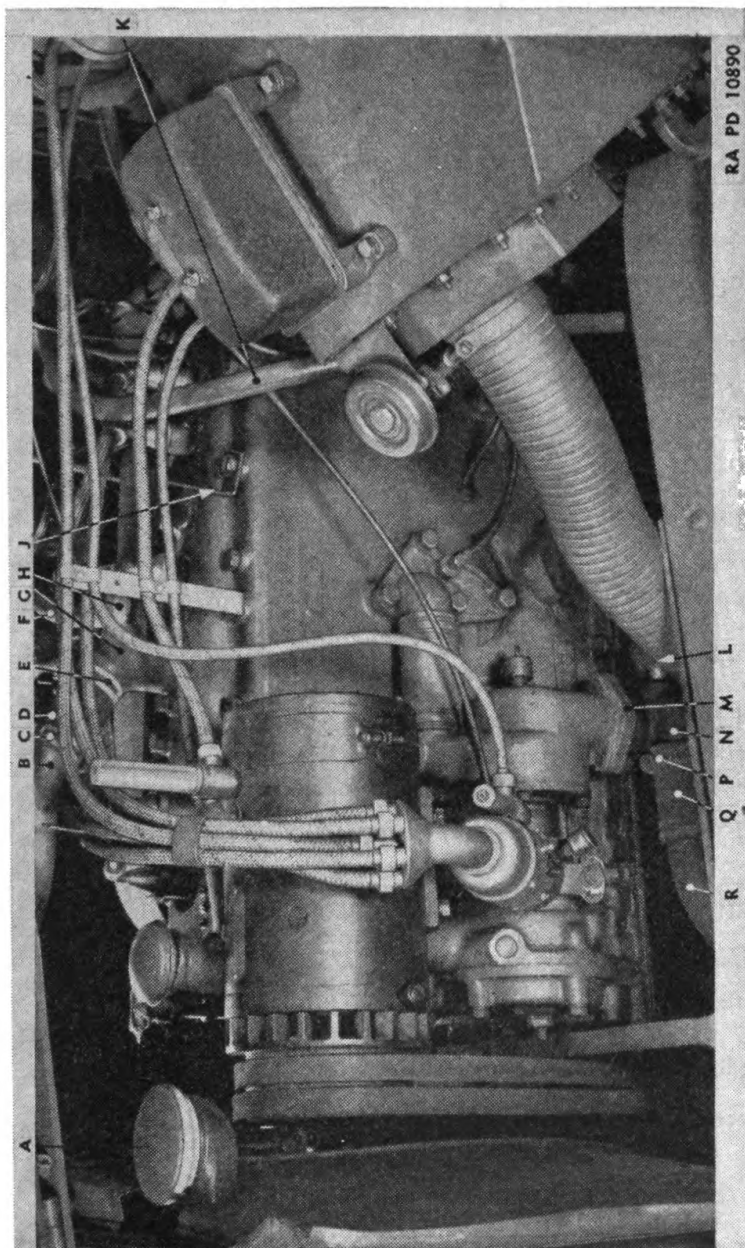

FIGURE 13.—Cooling system, installed.
17. Description (fig. 13).—The water-cooling system consists of the engine water jacket, water outlet and inlet fittings, radiator, centrifugal water pump, connecting pipes and hoses, and shroud-enclosed fan. The radiator is located in front of the engine and is